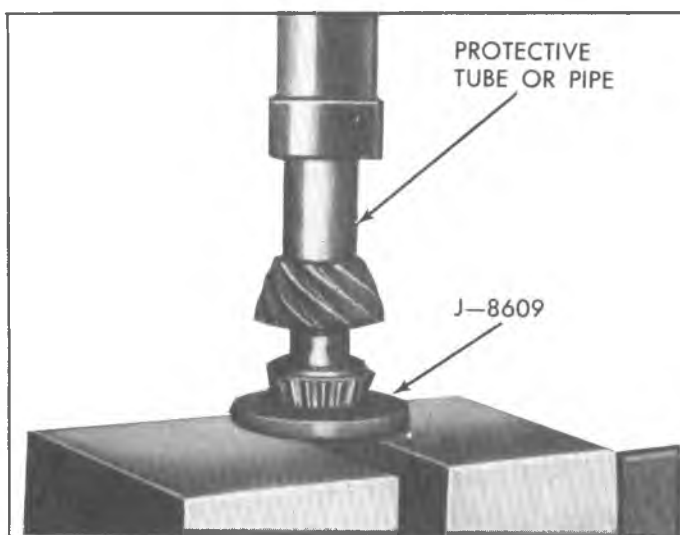

Fig. 23C—Installing Pinion Rear Bearing
17. Install the rear bearing on drive pinion, using J-8609 as shown in figure 23C.